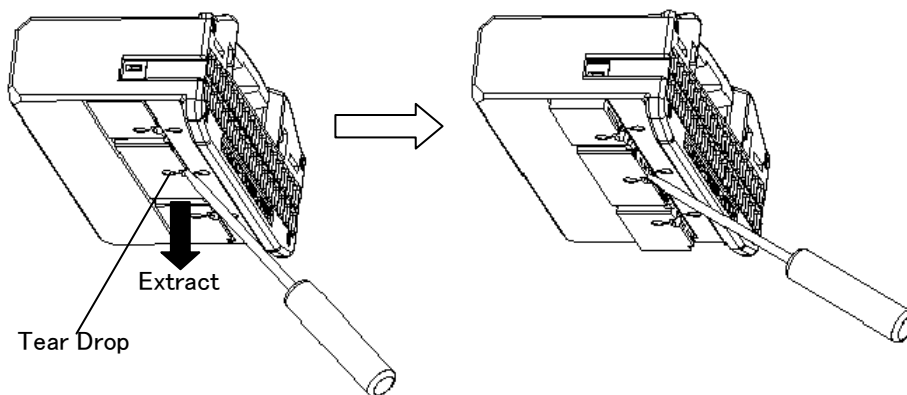

Fig.11
- (1) Insert a tool such as a 1mm blade screw driver, into the window of the retainer pointed by the tear drop mark. See Fig.11 (next page).
- (2) Draw out the retainer, about 1mm, to pre-assembled condition. Confirm that all of the projection is unlocked. See Fig.11 (next page).